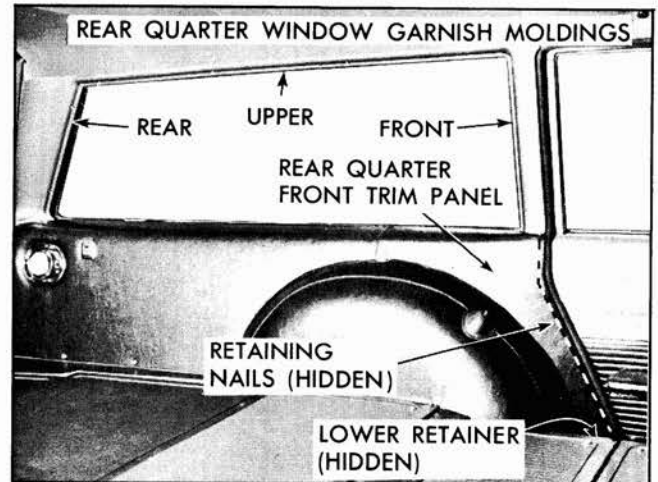

Fig. 4-10 Rear Quarter Trim - Station Wagon
6. Lift panel upwards to disengage from quarter inner panel, and remove assembly from body (Fig. 4-10).
3. Lift panel slightly upward to disengage from quarter inner panel and rearward to disengage from rearward section of rear quarter front trim panel (Fig. 4-10).
The rear quarter window front and upper garnish moldings and rear finishing panel are secured by screws. The upper garnish molding overlaps the front garnish molding and rear finishing panel (Fig. 4-10).